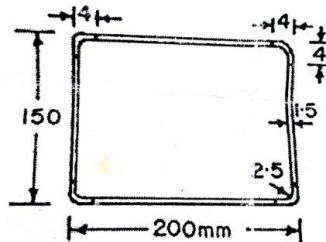

Figure 1
2. Find the allowable axial load for a column section shown in Figure1. Effective length of the column is 3.6 m. Take  $f_y = 235 \text{ N/mm}^2$ .